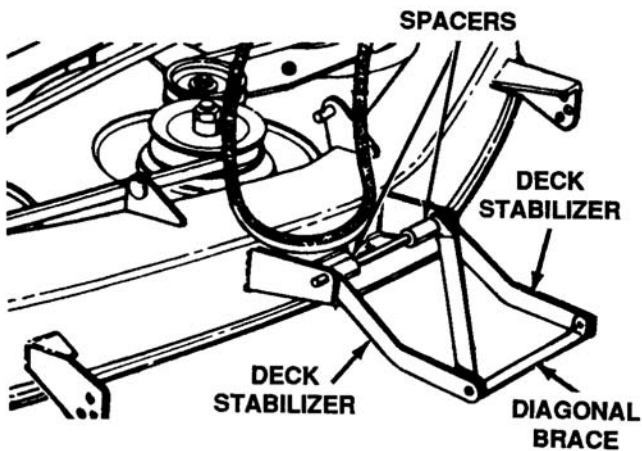

Figure 8-30. Deck Stabilizers and Diagonal Brace
3. The two deck stabilizers and the diagonal brace which are attached to the front of the deck are folded back over the deck for shipping purposes. Unfold them at this time. See Figure 8-30.
the rod which is through the deck stabilizer by removing the hairpin clips and sliding out the rod. Replace the rod and hairpin clips. See Figure 8-30.